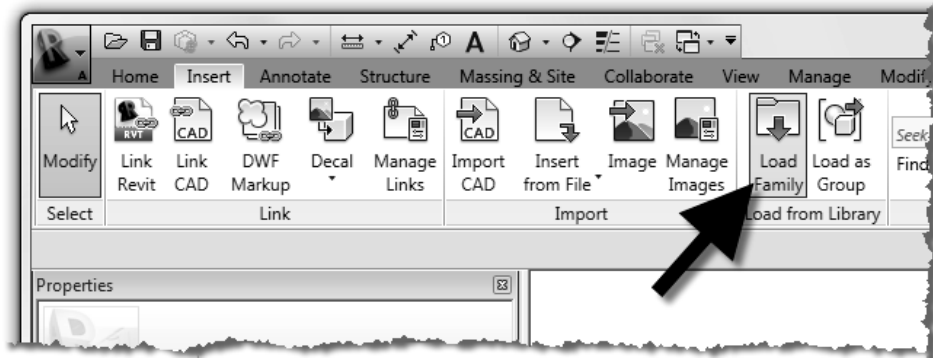

FIGURE 3-5.1 Load Family
2. From the Insert tab, select the **Load Family** button on the *Ribbon* (Figure 3-5.1).